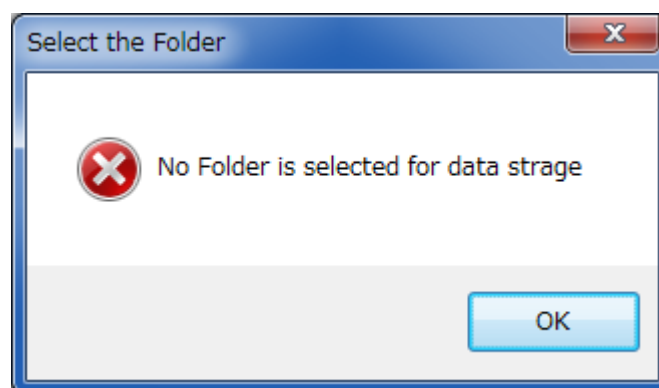

Fig.4-11 Screen of Warning
- When clicking [Data Copy] button ②, the data of the specified SITE will be transferred to the PC.
- ※ However, the following warning message (See Fig.4-11) will be displayed if the storage folder in the PC side is not specified.